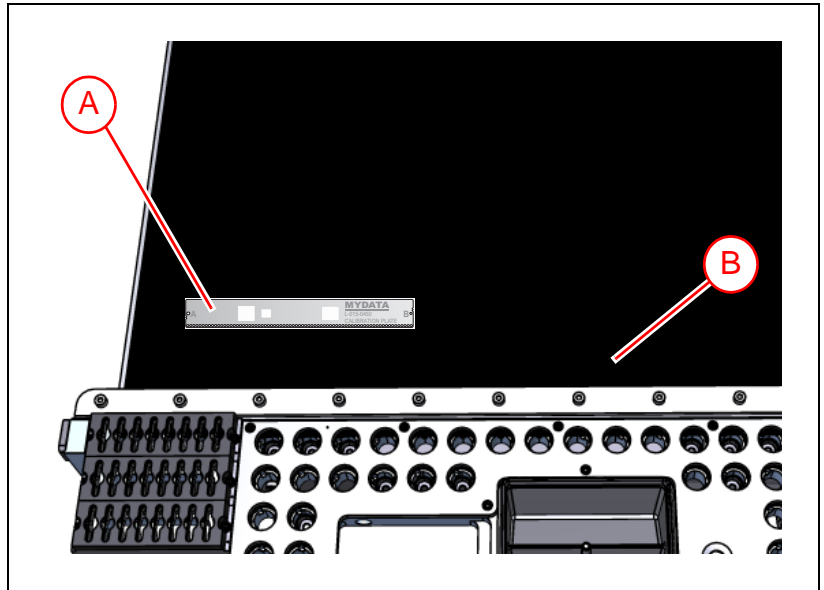

Figure 4-11. Area calibration plate on area calibration background.
3. When prompted, place the area calibration plate ('A' in Figure 4-11) on the area calibration background ('B').